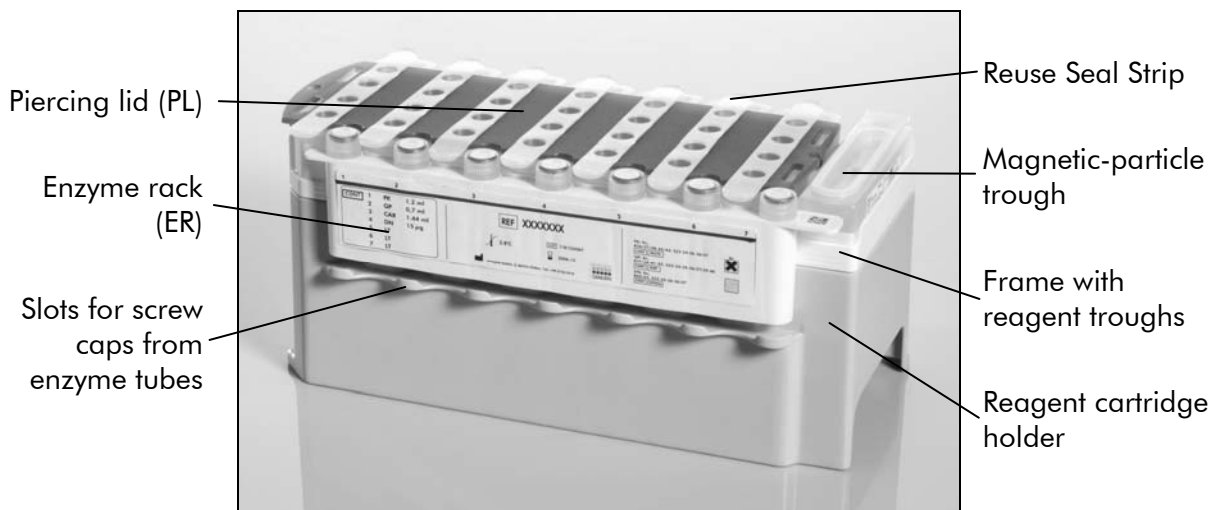

Figure 3. QIA Symphony reagent cartridge (RC). The reagent cartridge (RC) contains all reagents required for the purification procedure.
Reagents for purification of nucleic acids are contained in an innovative reagent cartridge (RC) (see Figure 3). Each trough of the reagent cartridge (RC) contains a particular reagent, such as magnetic particles, lysis buffer, wash buffer, or elution buffer. Partially used reagent cartridges (RC) can be reclosed with Reuse Seal Strips for later reuse, which avoids generation of waste due to leftover reagents at the end of the purification procedure.
After the magnetic-particle trough cover is removed and the enzyme rack tubes are opened (screw caps can be stored in dedicated slots, see Figure 3), the